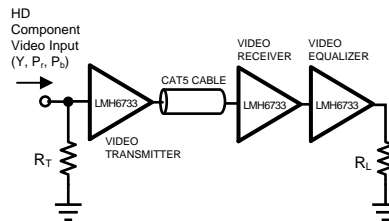

Figure 7. CAT5 High Definition Video Transmission
The LMH6733 can be used to send component 1080i High Definition (HD) video over CAT5 twisted-pairs. As shown Figure 7 , the LMH6733 can be utilized to perform all three video transmitter, video receiver, and equalization circuitry. The equalization circuitry enhances the video signal to accomodate for the CAT5 attenuation over various cable lengths. Refer to application note AN-1822 for more details regarding this application.